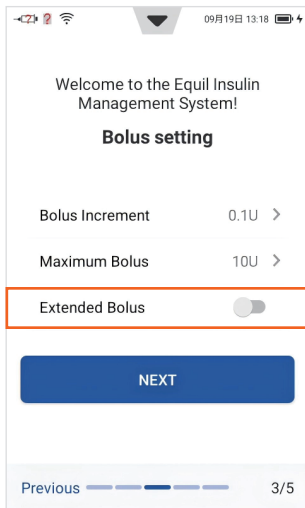

Figure 69
- c) Extended Bolus can be activated or inactivated (Figure 69).